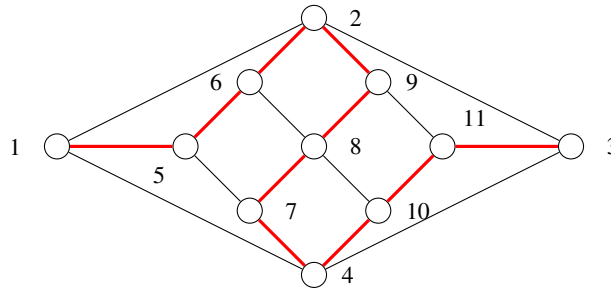

Figure 1: Hamiltonian Path Example
- (i) Encode the problem of finding a Hamiltonian path in the graph of Figure 1 in PDDL. Note that there may be possible solutions of the problem, and the red edges are just one example.